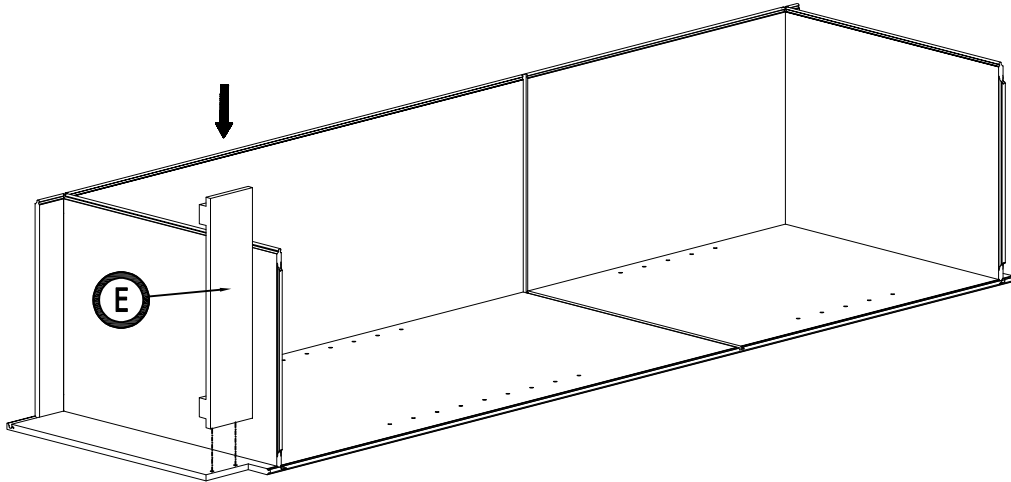

Figure 4
4. Install the Toe Kick : Insert the Toe Kick (E) into the free hole of side panel (A) .(Figure 4)